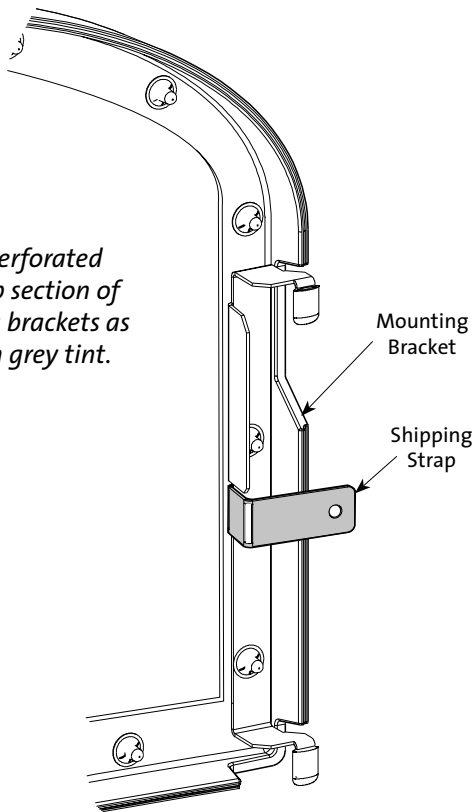

Figure 2.1.
1. **SAFETY BARRIER SCREEN:** This appliance is equipped with a Certified Barrier Screen that must be installed before operating the unit. It is secured to the shipping pallet. Remove those two screws and use pliers to break off each entire perforated sections from both screen frame attachment brackets. See fig. 2.1.